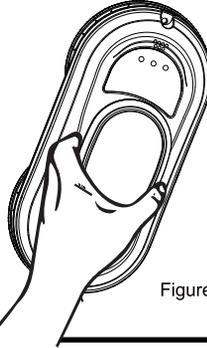
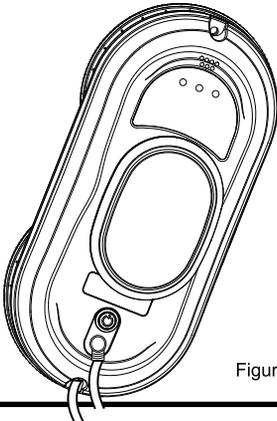
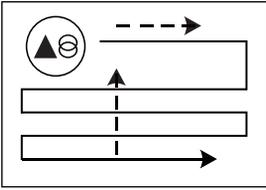

Figure2
Figure3
Figure4
According to the diagram, make sure the cleaning cloth is install on the cleaning ring, and the cleaning ring is correctly install on the cleaning wheel to prevent air leakage.(Figure1, Figure2, Figure3, Figure4)
- B. Plug the power cord into the socket.(Figure2)
- B. Put the machine on the glass and keep a certain distance from the window frame.(Figure2)
- C. Make sure that the robot can be attached to the glass, and then let go.(Figure3)
- D. Once more press the start button and the robot starts running.  (Figure4)